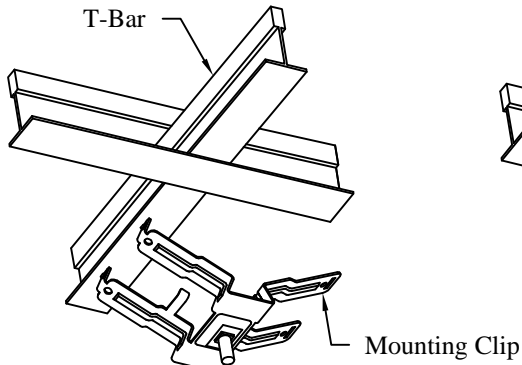
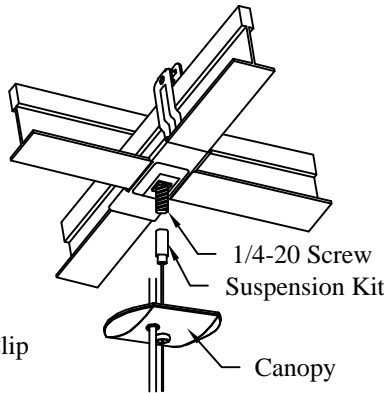
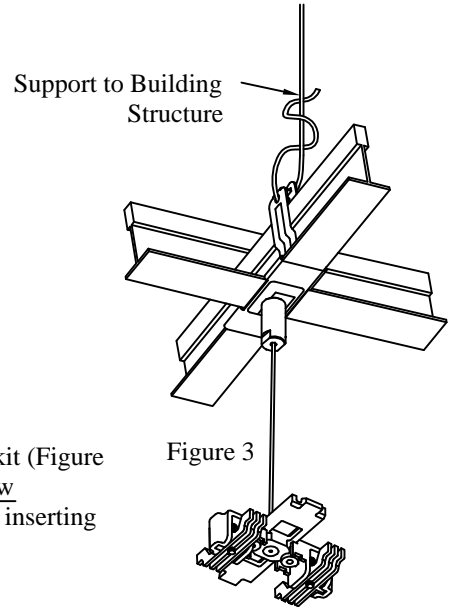

Figure 1
Figure 2
Figure 3
1. Install mounting clip on T-Bar (Figure 1) and insert canopy onto suspension kit (Figure 2).
2. Fasten Power Feed Suspension Kit or regular Suspension Kit to 1/4-20 screw provided (Figure 2). Attach clips to upper deck when required by local code by inserting support to building structure through the supplied holes (Figure 3).